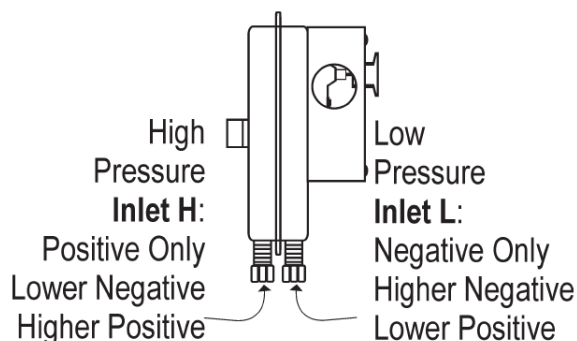

Figure 7
The sample line connections located on each side of the diaphragm accept $\frac{1}{4}$ " OD rigid or semi-rigid tubing via the integral compression ferrule and nut. However, an optional adapter (P/N 18311) is available for slipping on $\frac{1}{4}$ " ID flexible tubing. For sample lines up to 10 feet, $\frac{1}{4}$ " OD tubing is acceptable. For lines up to 20 feet, use $\frac{1}{4}$ " ID tubing. For lines up to 60 feet, use $\frac{1}{2}$ " ID tubing. Locate the sampling probe a minimum of $1\frac{1}{2}$ duct diameters downstream from the air source. Install the sampling probe as close to the center of the airstream as possible. Refer to Figure 7 to identify the high pressure inlet (H) and the low pressure inlet (L). Select one of the following five application options, and connect the sample lines as recommended.